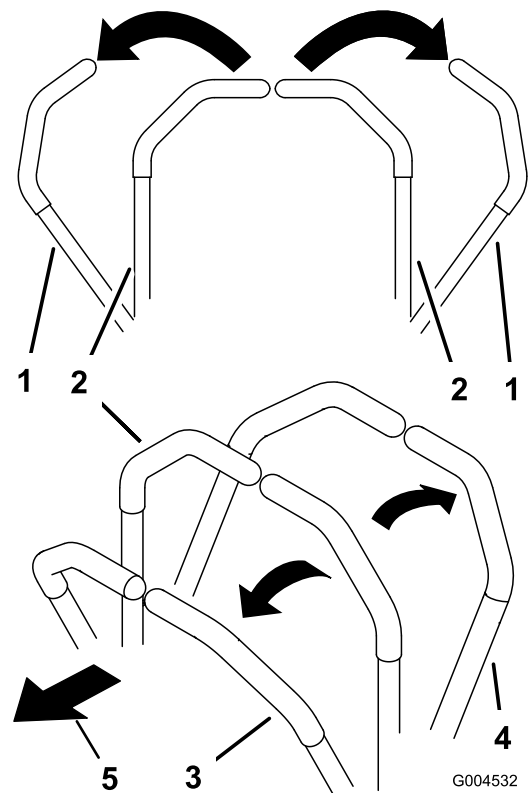

Figure 21
- To move straight forward, slowly push the motion-control levers forward (Figure 21).
- To move straight rearward, slowly pull the motion-control levers rearward (Figure 21).
- To turn, slow the machine by pulling back on both levers and then push forward on the lever on the opposite side from which you want to turn (Figure 21).